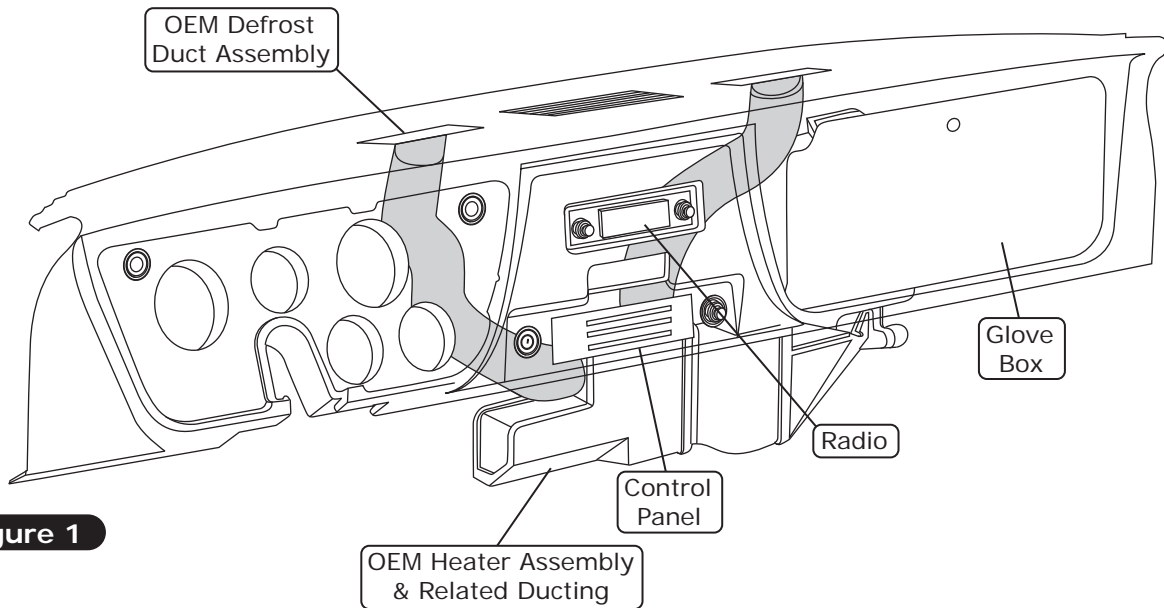

Figure 1
3. Remove all hoses and ducting from the defrost ducts (See Figure 1, below).